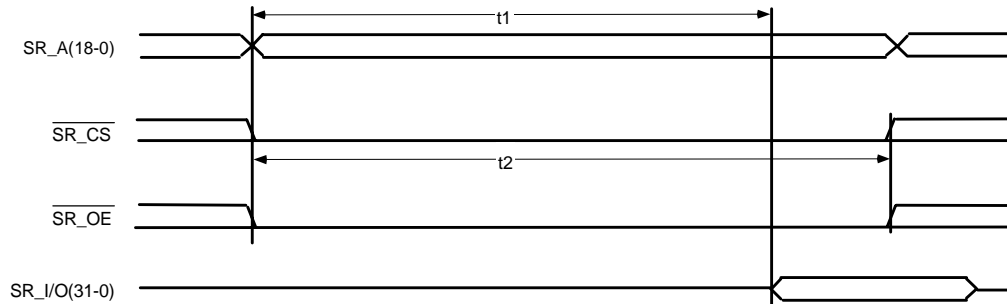

Figure 7 SRAM Bus Read Cycle Timing
**SRAM Bus Read Cycle (See Figure 7)**